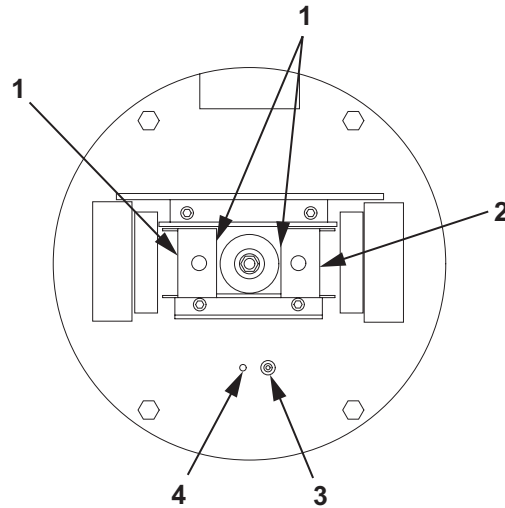

Figure 2. Fuel Additive Injection Pump and Bearing.
1. Flush area around the drive bearing (Figure 2, Item 1) and between power frame and crosshead (Figure 2, Item 2) with solvent cleaning compound to remove old grease and contaminants.
2. Hand pack the area around the drive bearing (Figure 2, Item 1) and between power frame and crosshead (Figure 2, Item 2) with ball and roller bearing grease.
3. Using hand lubricating gun, lube gear reduction fitting (Figure 2, Item 3) on CI and SDA side of pumping assembly until excess exits the hole next to the fitting (Figure 2, Item 4).
1. Position power frame cover (Figure 2, Item 1) onto power frame (Figure 2, Item 3).
2. Install four new lockwashers (Figure 2, Item 8) and screws (Figure 2, Item 7) on power frame cover (Figure 2, Item 1). Tighten screws (Figure 2, Item 8).
3. Position two stroke adjustment knobs (Figure 2, Item 5) on two stroke adjustment cams (Figure 2, Item 2). Tighten screws (Figure 2, Item 6).
4. Turn two stroke adjustment knobs (Figure 2, Item 5) to previously marked positions on power frame cover (Figure 2, Item 1).
5. Tighten two stroke adjustment setscrews (Figure 2, Item 4) in bottom of power frame (Figure 2, Item 3).